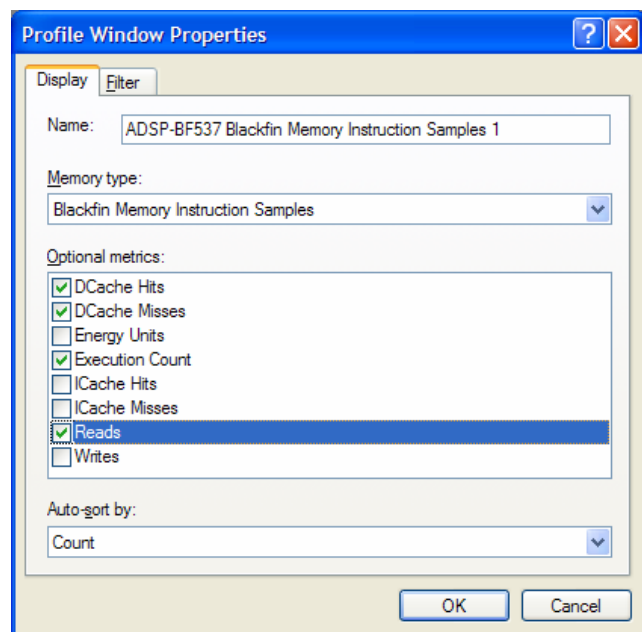

Figure 1. Display tab
- The Display tab (Figure 1) allows you to specify the memory type, and the associated metrics you wish to profile. The available memory types are specific to the target, and the available metrics are specific to the memory type. The optional metrics allow you to include data such as the number of reads/writes, cache hits/misses, execution counts, and so on, within your profile data.